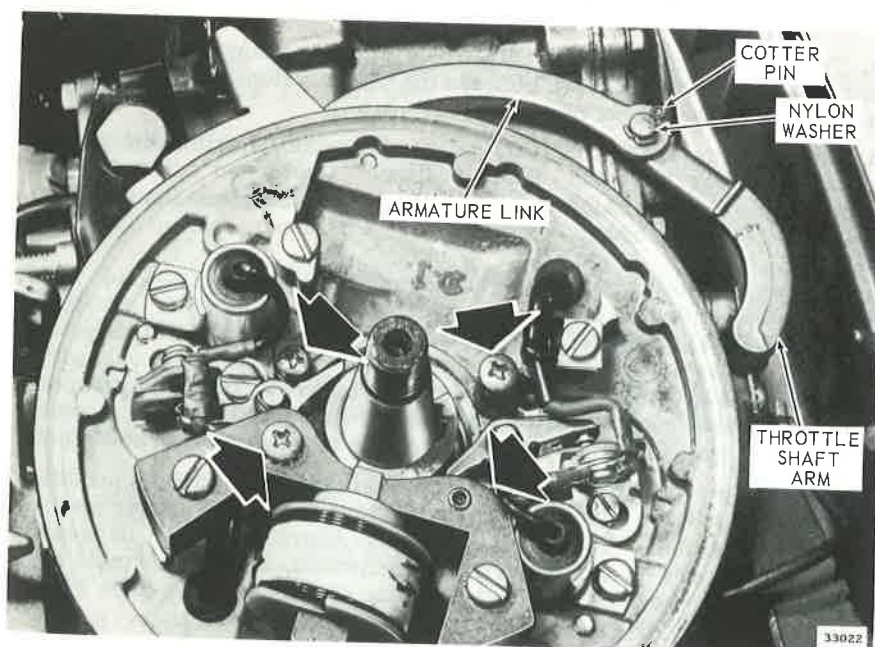

Figure 4-13. Armature Link and Armature Plate Attaching Screws
- Remove cotter pin and nylon washer securing armature link to throttle shaft arm. See Figure 4-13.
- Loosen four Phillips head screws attaching armature plate to power head. See Figure 4-13. Lift magneto assembly from power head.